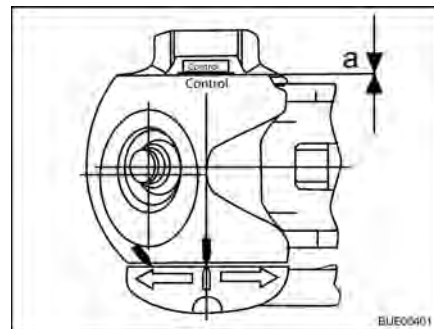

Fig. 194 Friction control
- Distance $a = 0$ (Fig. 194): Check and, if necessary, replace the friction pads.